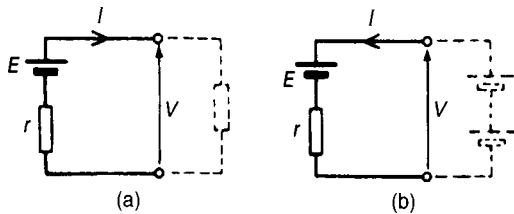

Figure 13.31
- (iii) For the circuit shown in Fig. 13.31(a) representing a practical source supplying energy, $V = E - Ir$, where E is the battery e.m.f., V is the battery terminal voltage and r is the internal resistance of the battery (as shown in Section 4.6). For the circuit shown in Fig. 13.31(b),